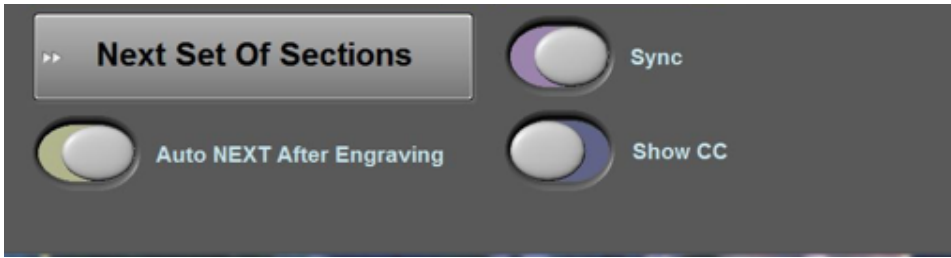
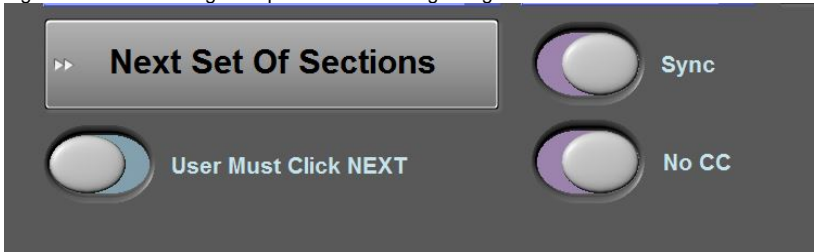

Figure 8. Default settings for quick automatic engraving on section halves.
Figure 9. Optional settings for specific cases.
- On the bottom right of the main screen a few other specific settings are available. The default settings are shown in Figure 8. The other options are shown in Figure 9.